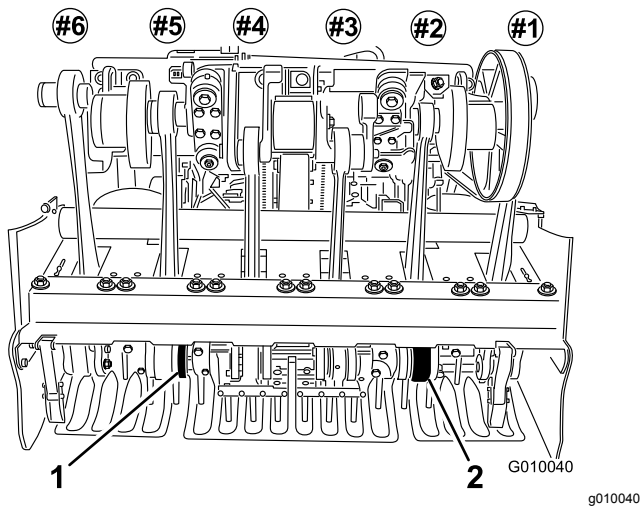

Figure 26
- Install tines into the #2 and #5 tine holders (Figure 26) Tighten the bolts.